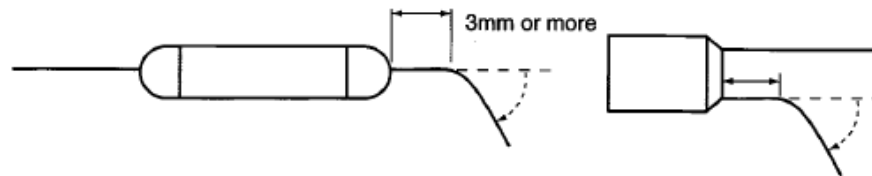

Fig.2
- When bending a lead wire for installation, fix the part of the lead between the body and the lead section to be bent using a tool, and gently bend the lead section that is at least 3 mm from the body. Never hold the body with a tool (see Fig.2).